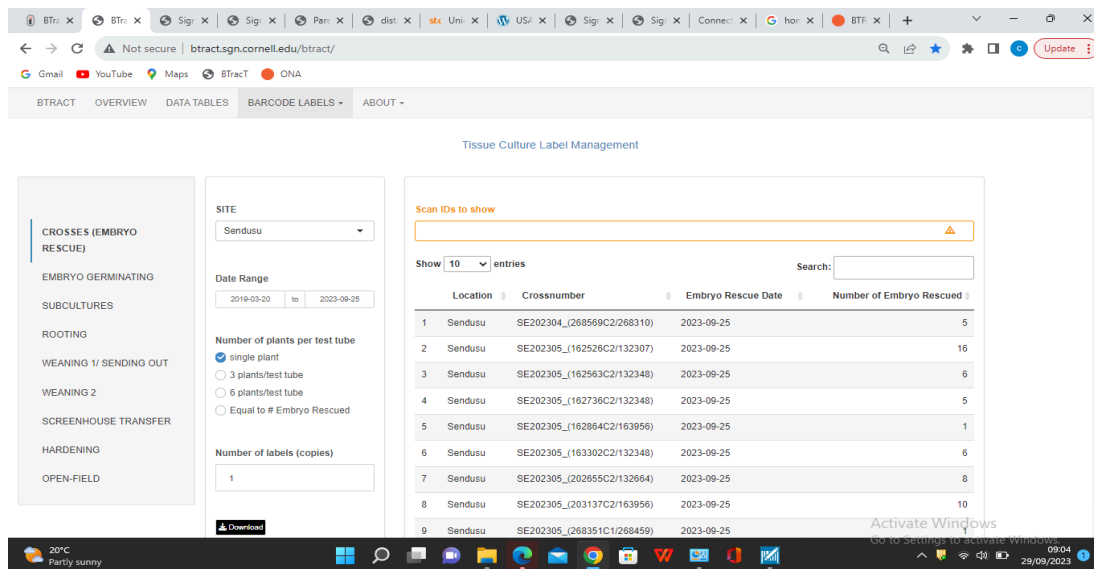

Figure 7: Shows a list of entries to be downloaded for barcode generation
- Download as depicted in figure 7.